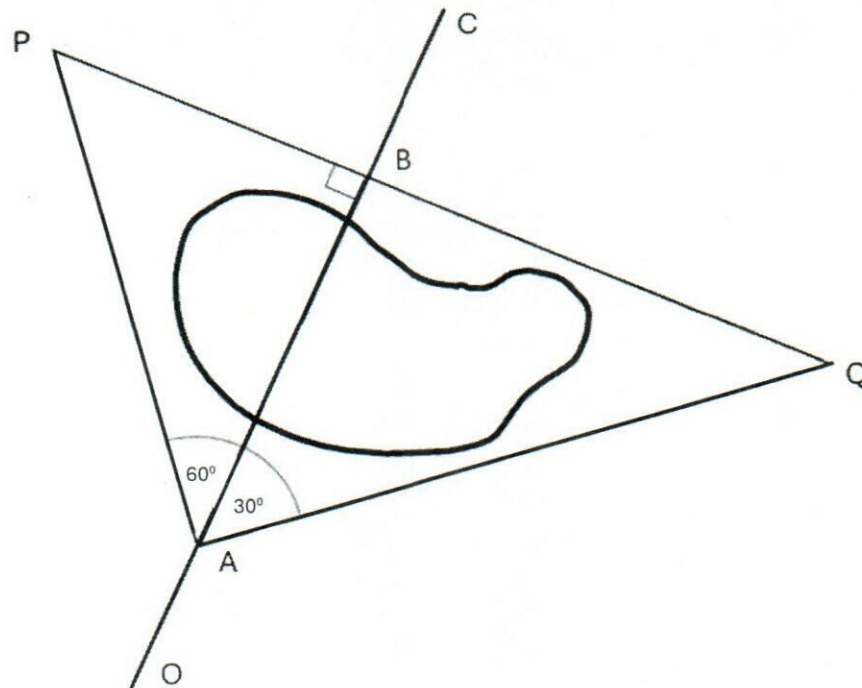

Figure Q2
- c) Figure Q2 shows a survey line OABC crossing a lake, where the chainage at O and A are 0.00m and 10.50 m, respectively. A perpendicular to line OABC is drawn from B to the points P and Q located on opposite sides of the lake. If the distance from P to Q is 800m, find the chainage at B. (8 marks)